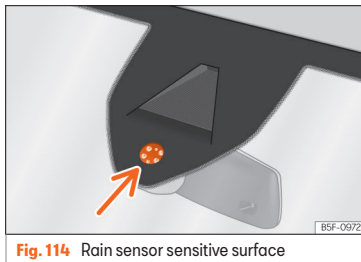

Fig. 114 Rain sensor sensitive surface
Possible causes of faults and mistaken readings on the sensitive surface »» **Fig. 114** of the rain sensor include:
- Regularly clean the sensitive surface of the rain sensor »» Fig. 114 (arrow) and check for possible damage to the wiper blades.